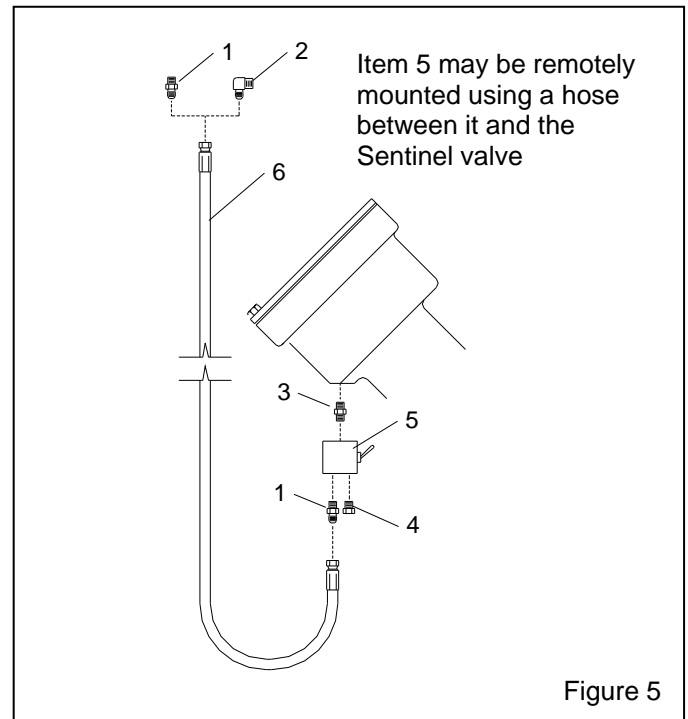

Figure 5
6.2 Accessories for Use with Non-Clemco Remote Control Applications, Figure 5